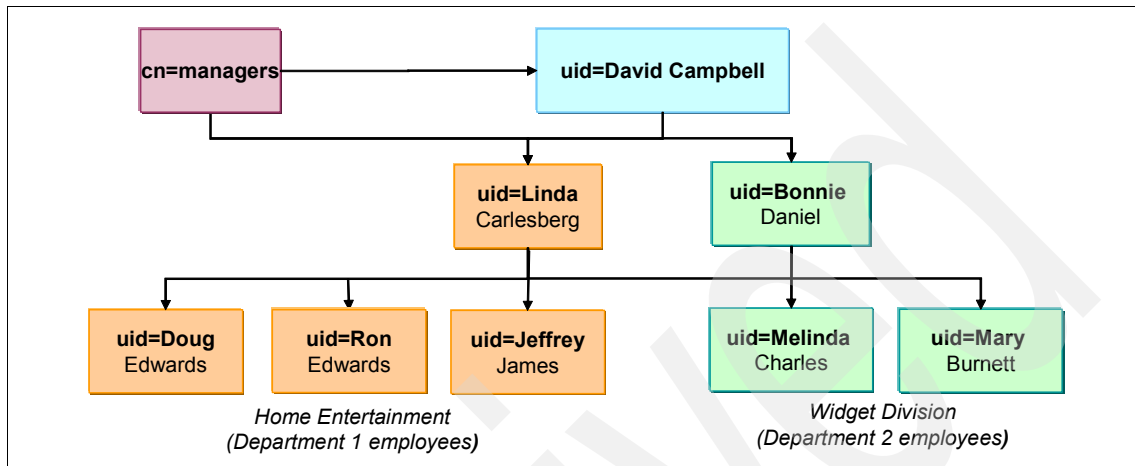

Figure 3-132 Pre-configured people directory
WebSphere Integration Developer's test environment now ships with a pre-configured people directory to allow developers to prototype human tasks quickly. Figure 3-132 shows the structure of this directory.
**Note:** Although Ron Edwards is depicted in Figure 3-132 as a member of the Home Entertainment group, he is technically not member of any group. He is set up as a substitute for Jeffrey James.